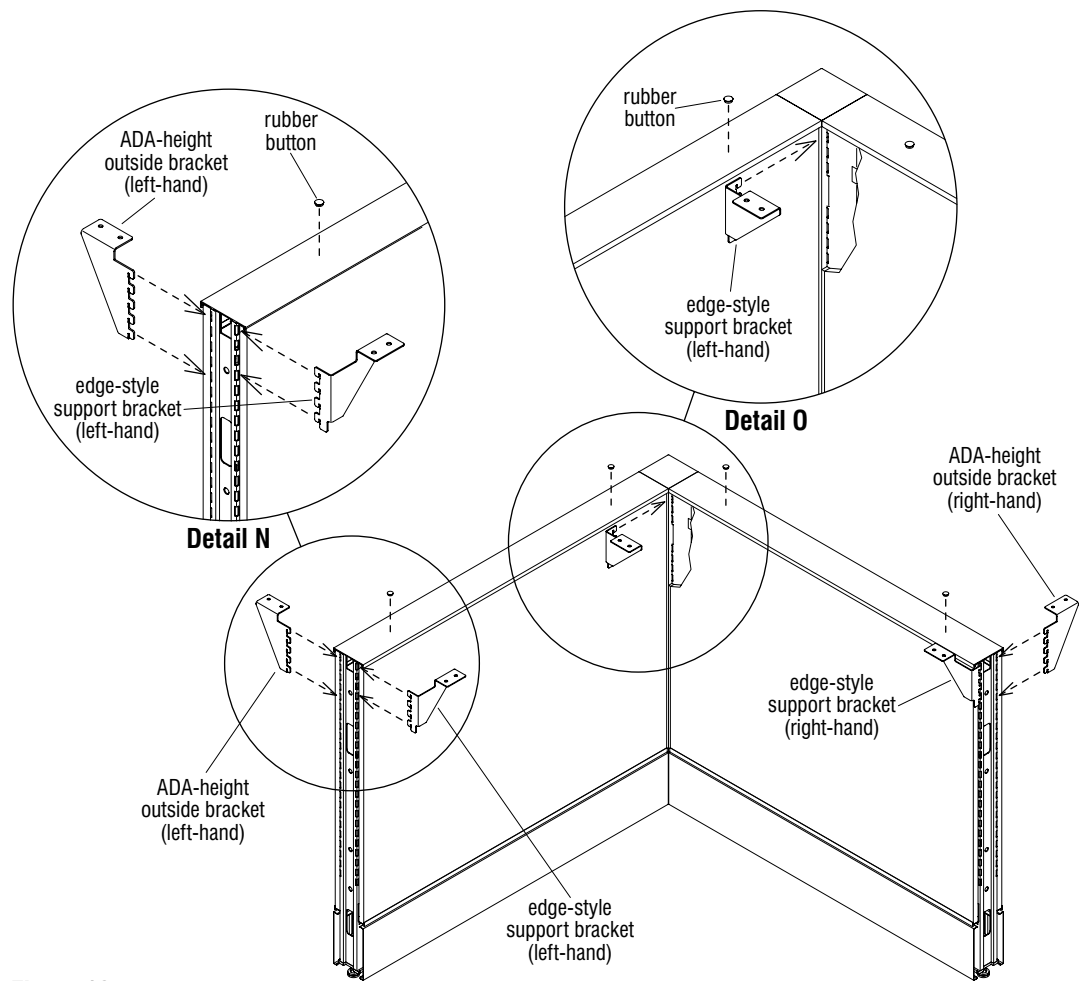

Figure 12
1. Legion Panel top caps must be installed, then adhere two self-stick rubber buttons to the top of both top caps as illustrated. Spacing of buttons is approximate, and buttons prevent the countertop from incidental contact with the top cap (Figure 12, Details N & O).
**Note:** An attachment bracket "pair" consists of an edge-style support bracket installed to the "inside", user side, as well as an ADA-height outside bracket installed to the "aisle side" of the Legion Panel corner unit. Additionally, an edge-style support bracket must be installed at the center, inside of the corner panel unit (Figure 12, Details N & O).
2. ADA-height bracket pairs are right-hand (Figure 12) or left-hand (Detail N) in design, so one bracket pair will install to the left-hand side, and the other pair will install on the right-hand side of the corner panel unit to support an ADA-Height corner transaction countertop. To install both bracket types (at inside and outside), identify the top slot of the panel vertical post and insert the top tooth of the appropriate bracket into that top slot. Rotate the bracket down to engage all teeth into slots in the vertical post, then press down firmly to engage all teeth into the slots. The horizontal top of all installed brackets should be about 1/8" above the top of the panel top cap. Check bracket for
full engagement by pulling straight back firmly in a horizontal motion (Figure 12 & Detail N).
panel vertical post and insert the top tooth of the bracket into the top slot. Rotate the bracket down to engage all teeth into slots in the vertical post, then press down firmly to engage teeth into the slots. The horizontal top of the bracket should be about 1/8" above the top of the panel top cap. (Figure 12 & Detail O).